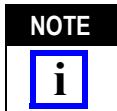
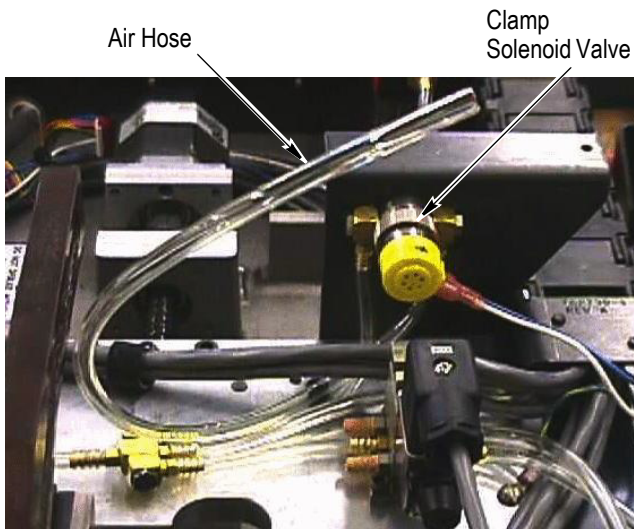

Figure 1
Figure 3
2. DESCRIPTION (See Figure 1)
4. On the machine, plug the air hose from the clamp solenoid valve (see Figure 3) onto the fitting of the cable clamp (refer to Figure 1).
Figure 4 lists recommended customer-replaceable parts. These parts should be inspected regularly. Customer-replaceable parts should be stocked to prevent machine or assembly downtime in the event that they require replacement. For location of the parts, refer to Figure 1. For location of the air hose and clamp solenoid valve, refer to Figure 3.